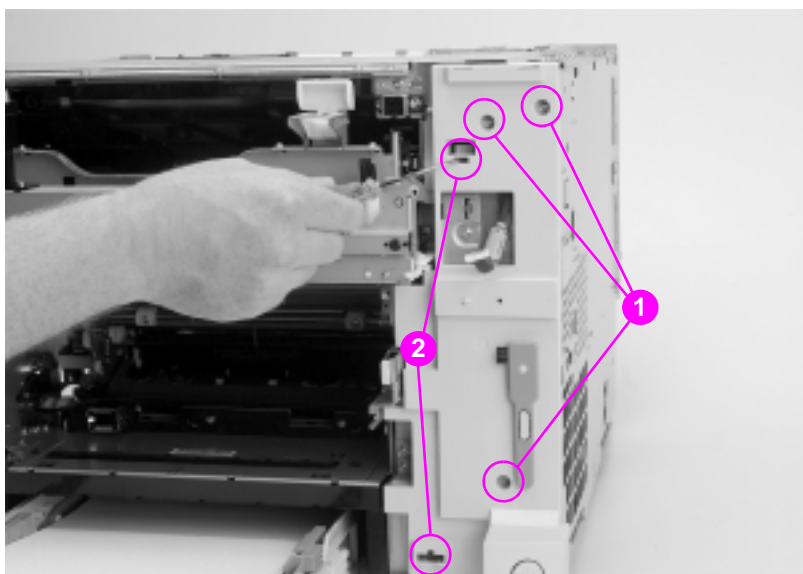

Figure 6-11 Front right cover removal and replacement
- 4 Remove the three screws as shown in Figure 6-11 (callout 1).